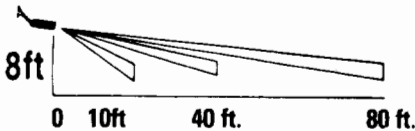

FIG 5
1. For ideal operation and maximum coverage of area the unit should be mounted 8'5" above the ground under a house overhang or on the outside wall of the house. The unit may also be mounted indoors and should be wall mounted. If mounting the unit at 8'5" is impractical, the unit may be mounted either higher or lower however the effective "target area" may vary from the specifications stated in this manual. See figures 5 and 6.
5. Aim the control module to the desired target area. (Figure 5 and 6).